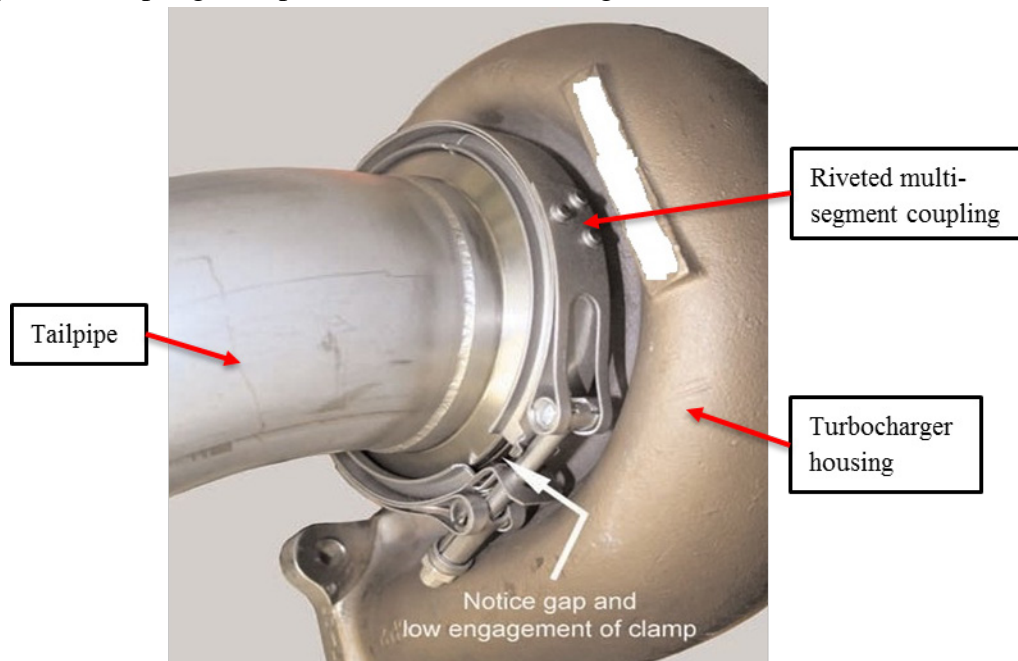

Figure 10
- e. Assemble the tailpipe exhaust flange on to the turbocharger exhaust flange, with a new gasket if applicable per the DAH type design configuration or current Instructions for Continued Airworthiness (ICA). Carefully twist the coupling/clamp over the flanges as if to follow the flanges as a nut would on a screw thread. Refer to Figure 10.